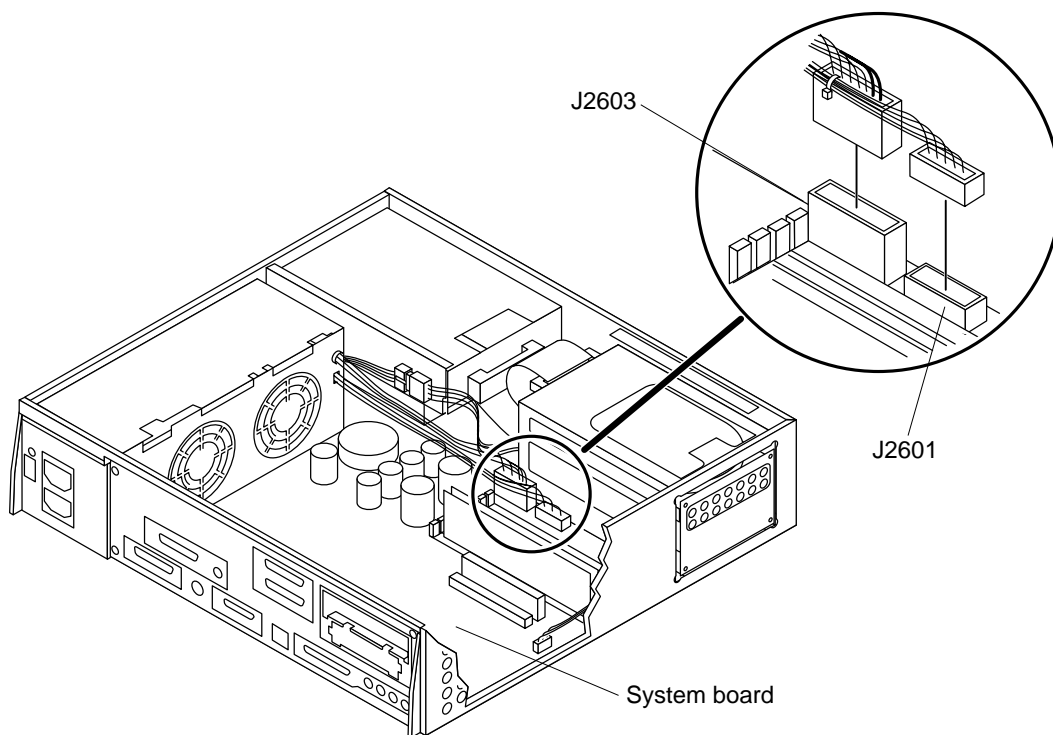

FIGURE 10-8 DC Power Connection
- DC power cables at J2601 and J2603 (FIGURE 10-8).